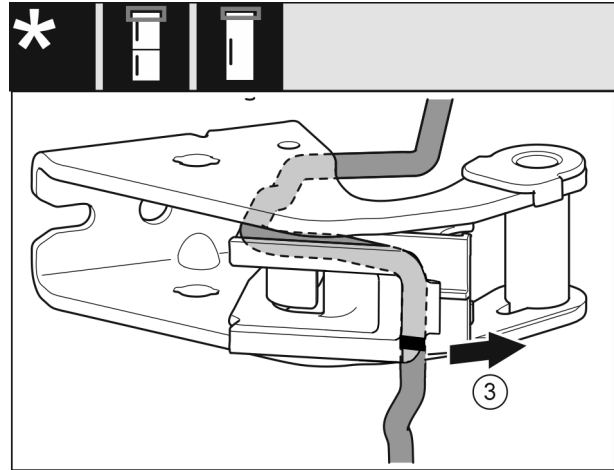

Fig. 28
- ▶ Remove the cable with the cable bracket Fig. 28 (3) from the swap bearing block.